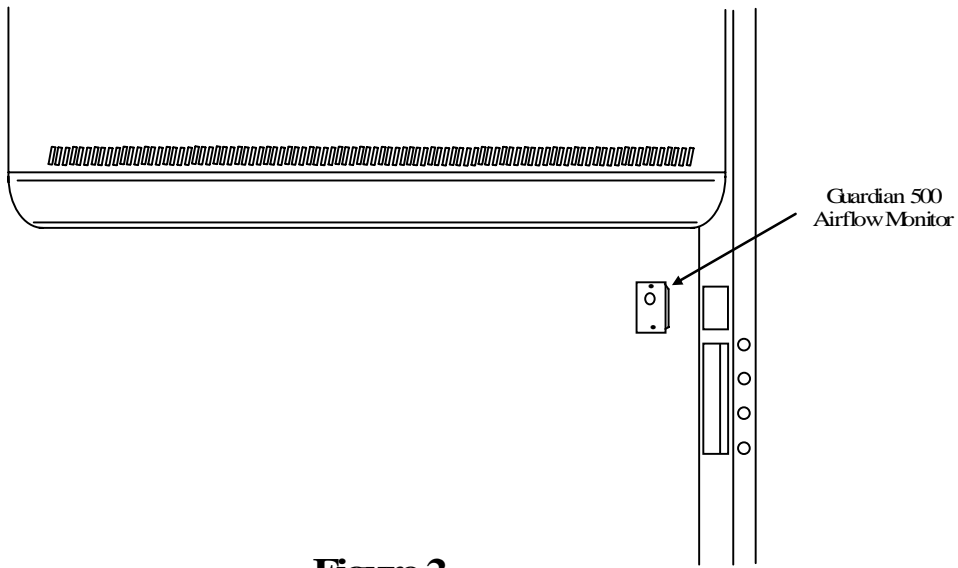

Figure 2
4. Install the monitor to the upper right corner post using the two screws that came with your kit. See figure 2.
- a. Connect one end of the supplied sidewall adaptor with nut included in your kit by removing the uppermost plastic plug from the ½” hole in the sidewall of the hood and replacing it with the adaptor and nut. The nut is located inside the fume hood. See figure 2.